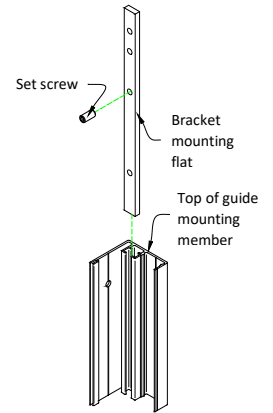

Figure 1
Step 2: Install bracket mounting flats; refer to Figure 1. Two G340P bracket mounting flats are supplied with each unit; their length equal to coil dimension. Flats are oriented such that the double holes are toward the top. Slide flats into channel of mounting member from top (top of mounting member has mounting hole which is 1-1/2” down from end). Holding top of flat flush with top of mounting member, install 5/16-18 x 5/8” set screw in third hole down of flat and tighten snugly.